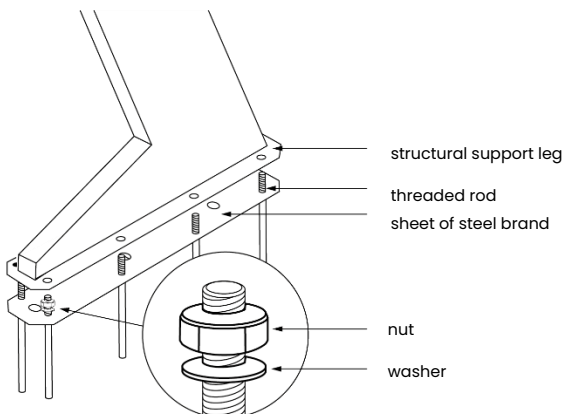

Fig. 5. Placement of washers and nuts for leveling if needed.
5. Before proceeding with the further assembly, **check the spacing between the vertical supports** relative to each other and whether they are installed in a vertical position. In case of deviation from vertical, appropriate adjustments should be made (see Fig. 5).